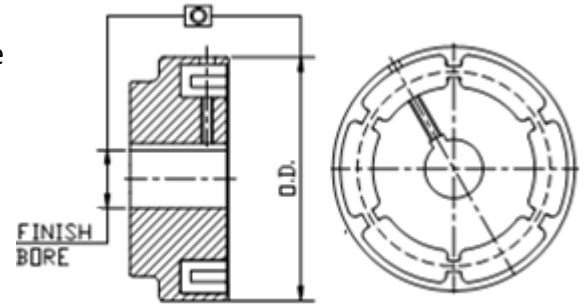

Fig.2 Finish Bore
3.1 Finish Bore Instruction (Fig. 2)